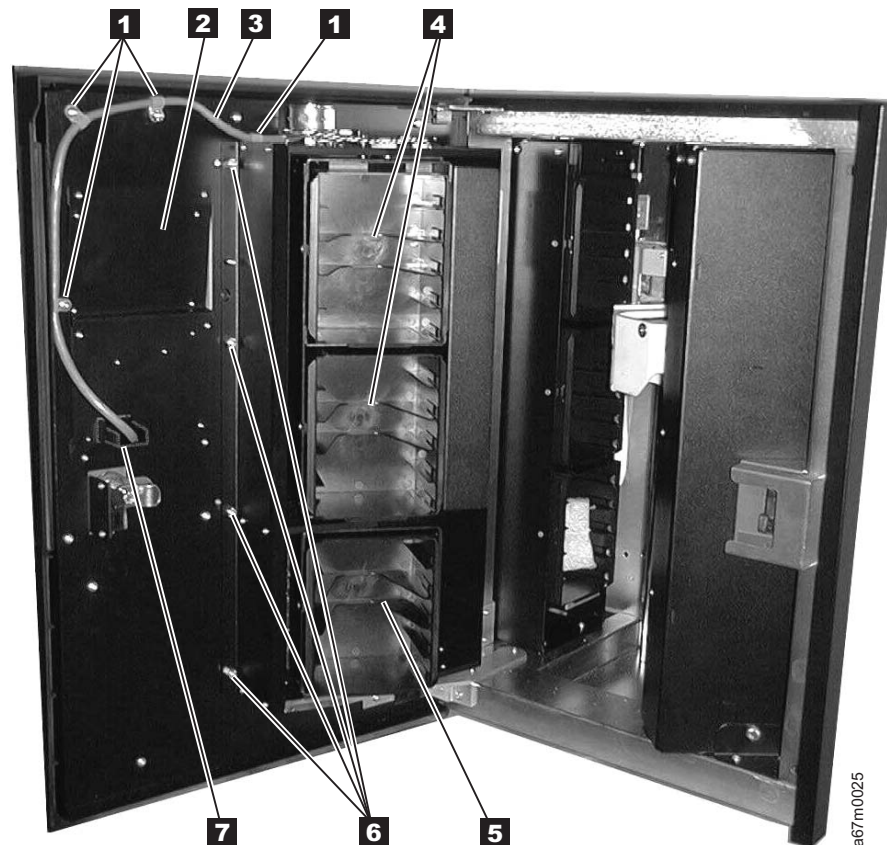

Figure 14-29. Installing the 12-slot I/O station
4. Remove the four I/O station cable clamps (see **1** in Figure 14-29). Three of the cable clamps are attached to the door with a T20 Torx screw, and one is attached with a 11/32-in. nut.